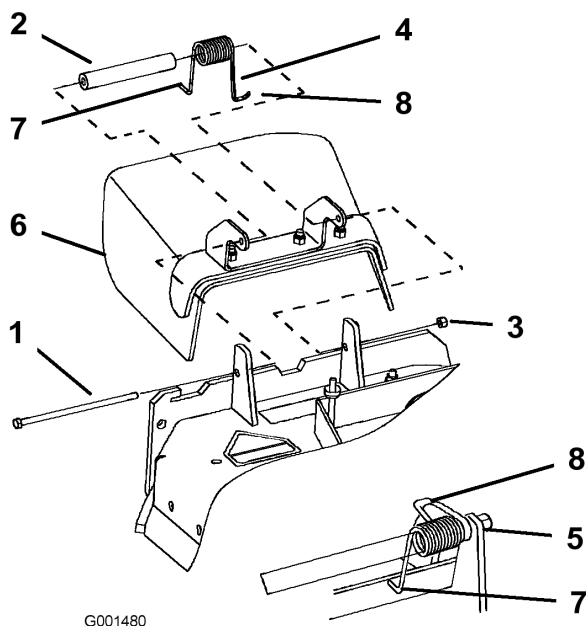

Figure 45
1. Remove the locknut, bolt, spring and spacer holding the deflector to the pivot brackets (Figure 45). Remove damaged or worn grass deflector.
Note: Make sure the **L** end of spring is installed behind deck edge before installing the bolt as shown in Figure 45.
3. Install bolt and nut. Place the **J** hook end of spring around grass deflector (Figure 45).